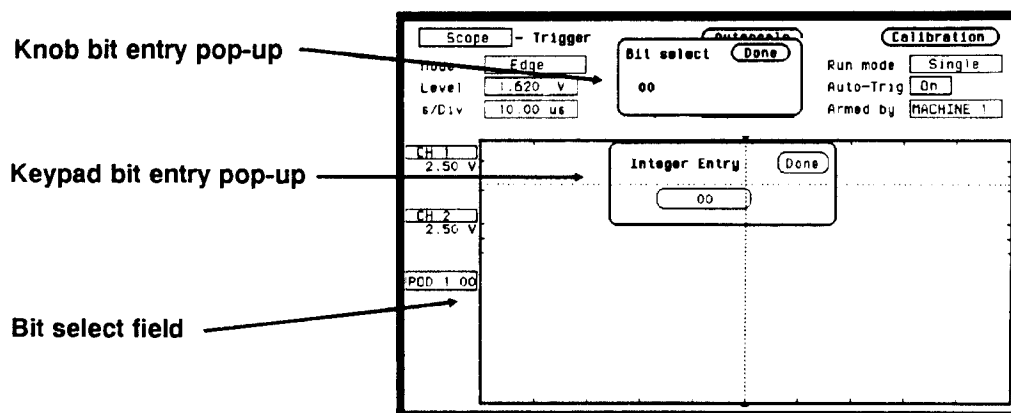

Figure 26-8. Knob And Keypad Entry Pop-ups
6. Each pod that is inserted, will have the bit number incremented by one, starting from "00". To modify the bit number, select the **Bit select** field which is just to the right of the Pod number. See the Bit selection field in figure 26-8.
7. When the Bit select pop-up appears, enter the bit number you want by rotating the knob or by using the keypad. The keypad will appear when the first key is touched. See figure 26-8.